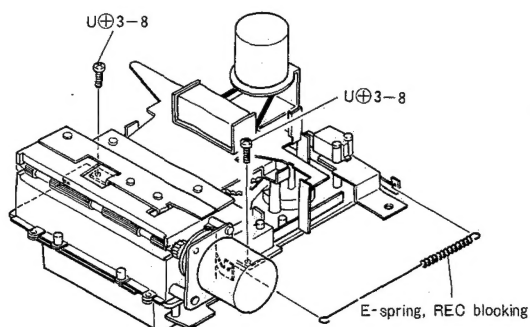

Fig. 9
- 2) Remove the E-spring (record prevention mechanism). (See figure 9)